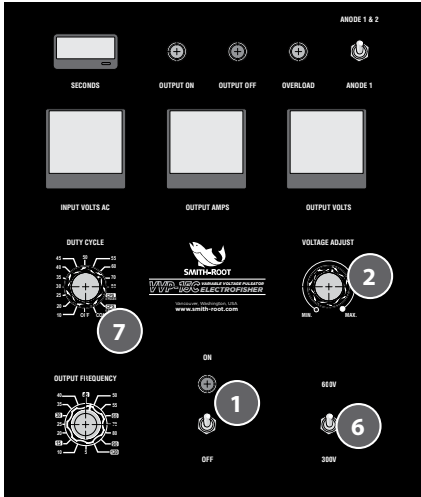

Fig. 1
1. Set the POWER switch to the OFF or down position (Fig. 1, 1).
2. Set the OUTPUT VOLTAGE ADJUST control to the extreme counter-clockwise position (Labeled *MIN.*)(Fig. 1, 2).
6. Set the OUTPUT (range) switch to the desired position (Fig. 1, 6).
7. Select desired DUTY CYCLE & FREQUENCY, (Cont. DC or pulsed DC are selected at this step) (Fig. 1, 7).